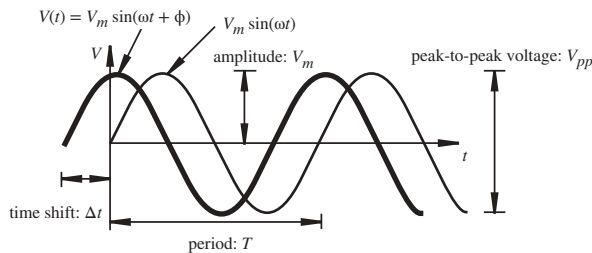

Figure 2.28 Sinusoidal waveform.
When linear circuits are excited by alternating current (AC) signals of a given frequency, the current through and voltage across every element in the circuit are AC signals of the same frequency. A sinusoidal AC voltage $V(t)$ is illustrated in Figure 2.28 and can be expressed mathematically as
Figures 2.28 and 2.29 illustrate a positive phase angle (ϕ), where the voltage signal $V(t)$ leads (i.e., occurs earlier in time relative to) the reference sine wave.